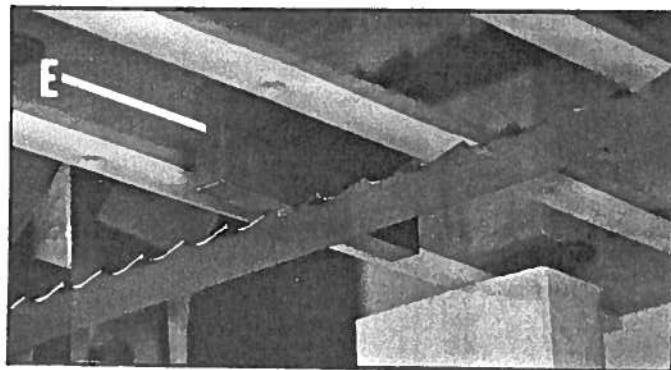

Fig 29
4. While holding the special gage (E) Fig. 29, against the bottom of the platen, move the platen up or down until the blade just touches the gage (E), as shown.